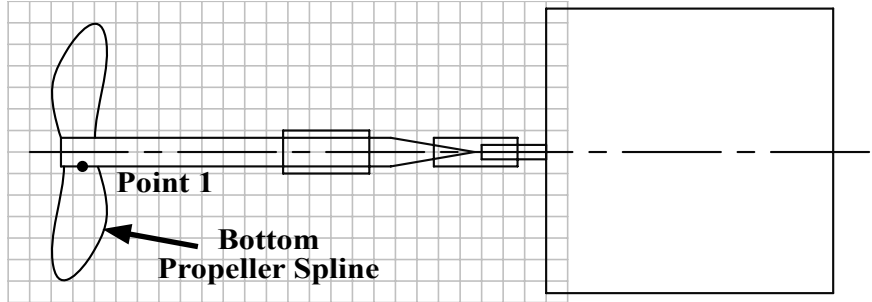

FIG. 10
Step 6. Select the bottom propeller spline, **Fig. 10**, with a click and press ENTER.
Step 8. To indicate position on the plane, click Point 1, **Fig. 10**.